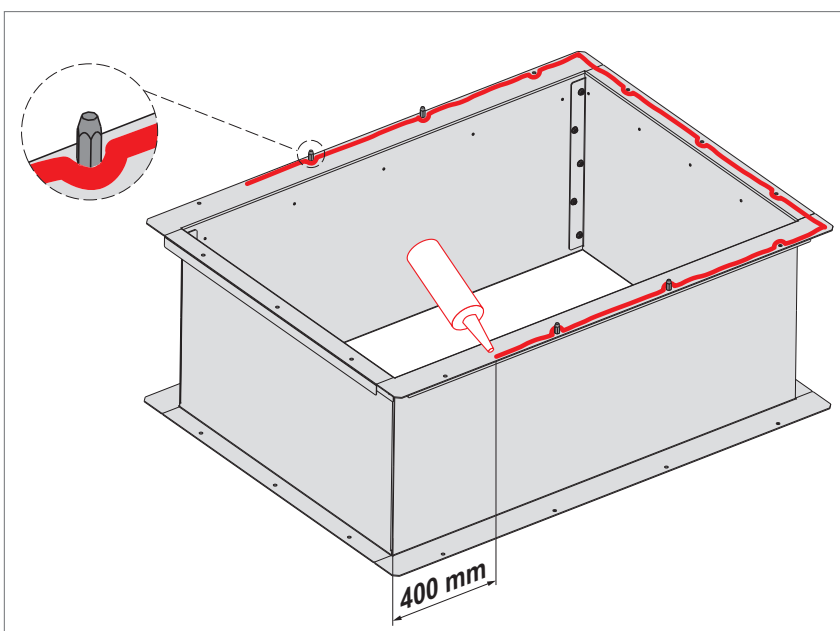

Fig. 21: Applying the sealing compound
- Apply sealing compound to the roof frame (see Fig. 21):